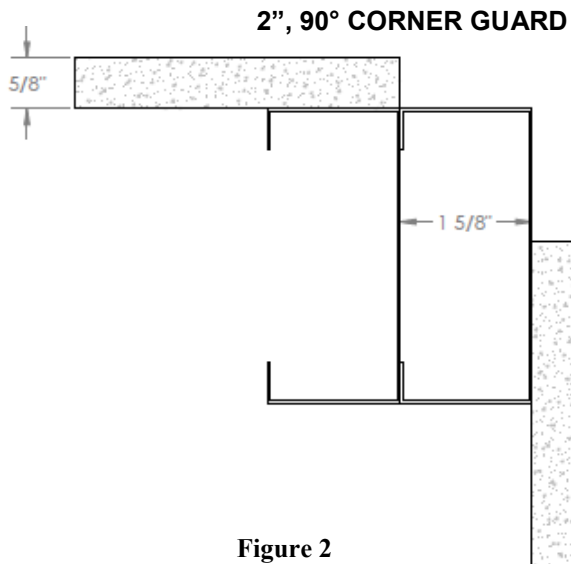

Figure 2
STEP 1. After framing is completed, install gypsum wall board on the steel stud framing using the proper drywall setback measurements for the correct type of flush mount corner guard (refer to Page 1, Figures 2, 3, and 4).